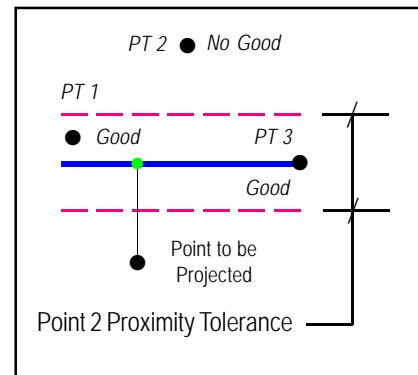

Figure 12
- c. Shown in Figure 12 is an illustration of how the Point 2 Proximity Tolerance value is used. Points 1, 2 and 3 denote point features in the Point 2 Layer. The point to be projected is projected upon the blue line resulting in the point of projection which is the green point.
In the sample shown in Figure 12, points 1 and 3 are considered potential candidates, while Point 2 is ruled invalid since it is outside the